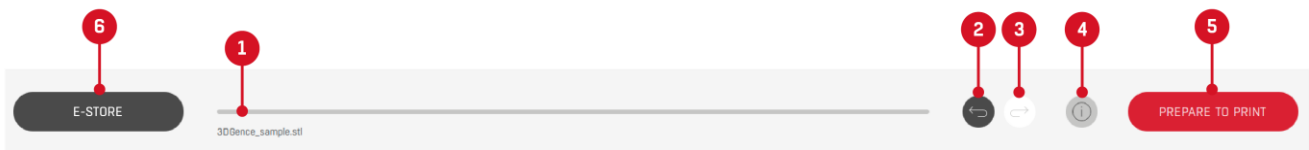

Fig. 24 Button bar
1. Status bar (Fig. 24) – displays the software operation statuses.